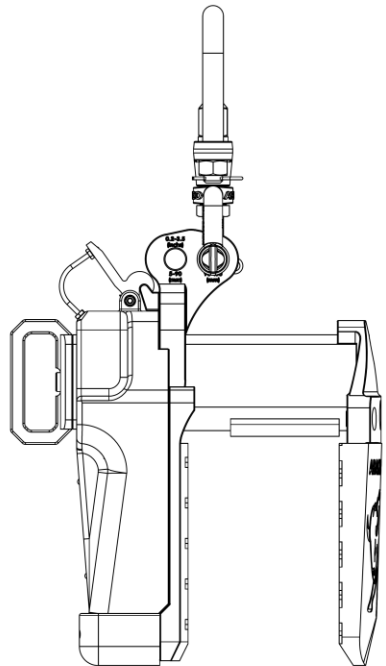

Figure 1.2
- Hook the Swivel Shackle at position 2 when the slab thickness is from  $3\frac{9}{16}$ " (90mm) to  $5\frac{7}{8}$ " (150mm) (Figure 1.2).